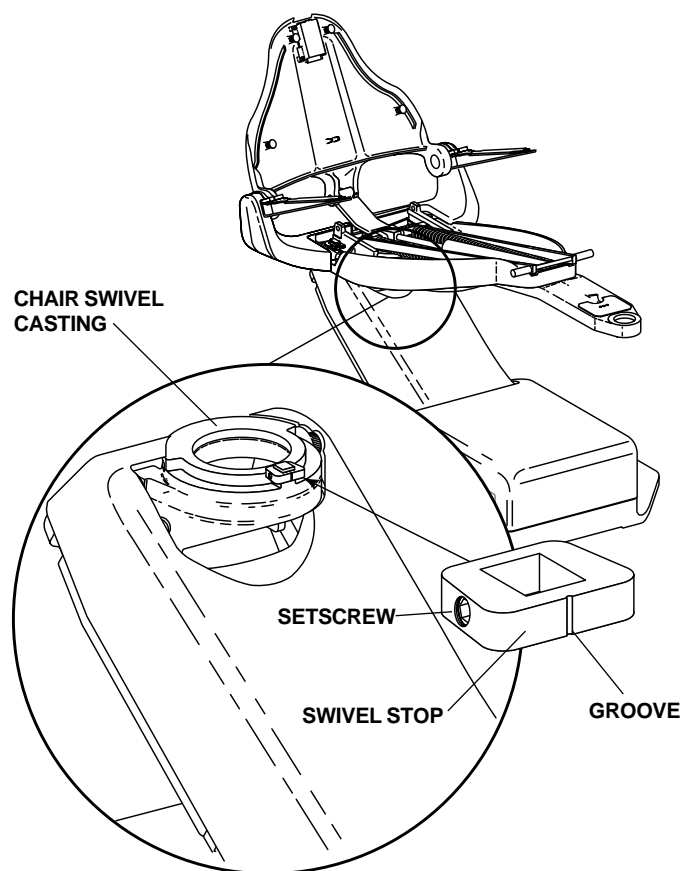

FIGURE 2
1. Locate the chair swivel stop (see Figure 2).
2. Install the chair swivel stop on the chair swivel casting (see Figure 2). Position the chair swivel stop with the groove to the front.
3. Tighten the setscrew to secure the stop in place (see Figure 2).